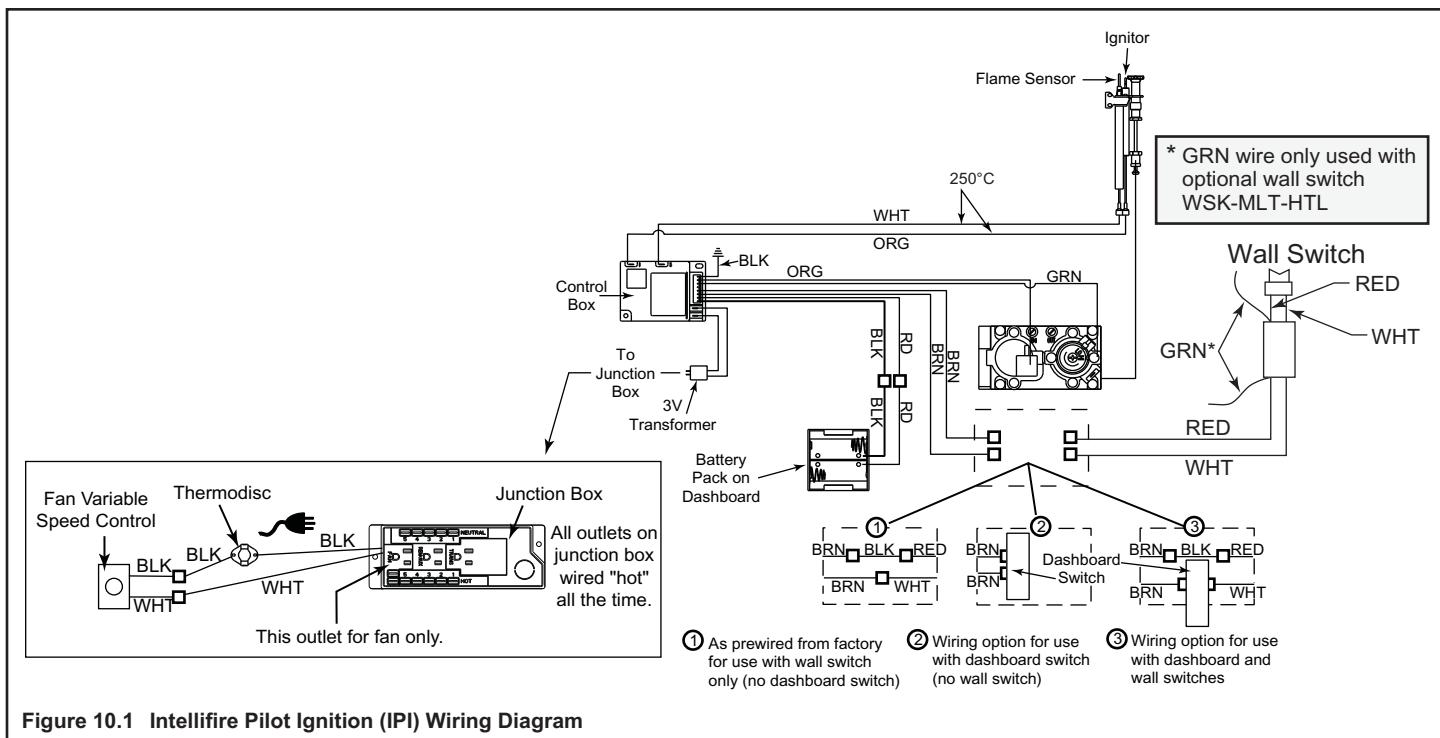

Figure 10.1 Intellifire Pilot Ignition (IPI) Wiring Diagram
This appliance requires a 110 VAC supply to the appliance junction box for operation. A wiring diagram is shown in Figure 10.1.
- Connect the two brown wires to the male connectors on the back of the dashboard switch. See Figure 10.1, #2 detail.
- Connect the free end of the wall switch wire to the other male connector on back of the dashboard switch. See Figure 10.1, #3 detail.
- Hold the dashboard and plug in the wire as shown in Figure 10.1.
- See Figure 10.1 for dashboard switch wiring.